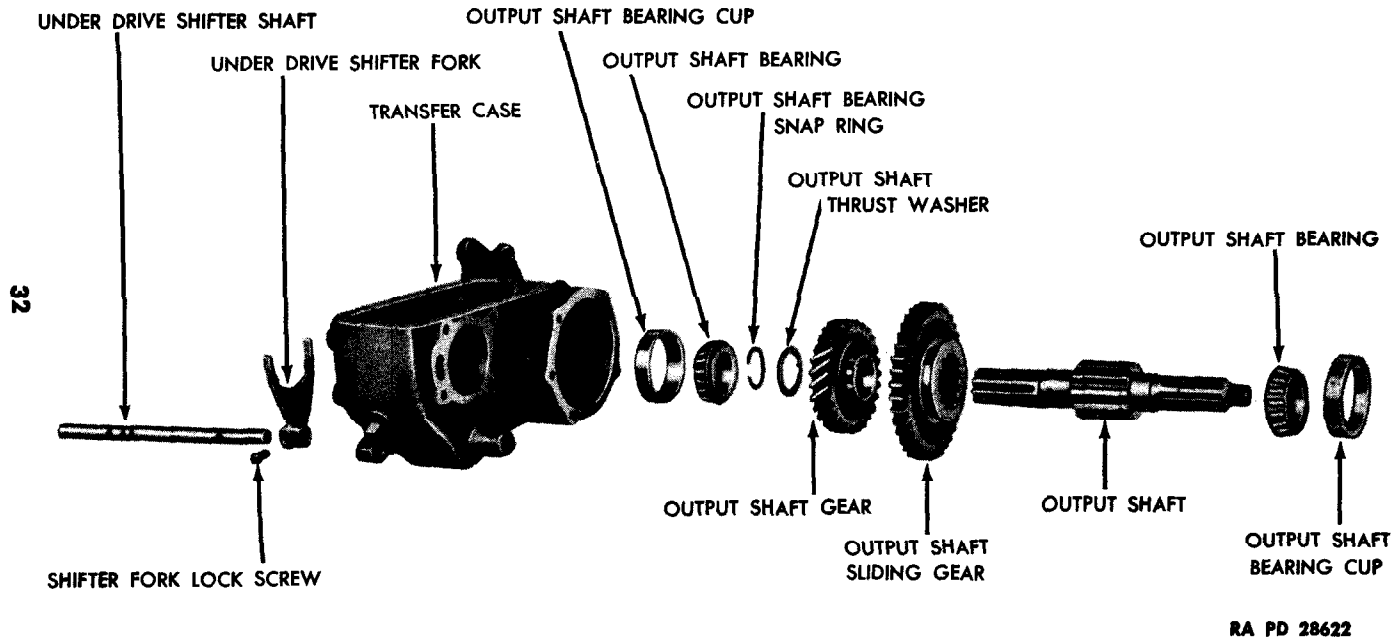

Figure 24 — Output Shaft — Exploded View
(5) **OUTPUT SHAFT ASSEMBLY** (fig. 24). Replace the output shaft if the splines are worn. Small nicks can be removed by honing and then polishing with a fine stone. Measure the inside diameter of
(6) **UNDER DRIVE SHIFTER FORK ASSEMBLY** (fig. 24). Check the fork for stripped set screw threads, cracked or bent forks. Replace if in any of these conditions. Replace the under drive shifter shaft if it is bent.